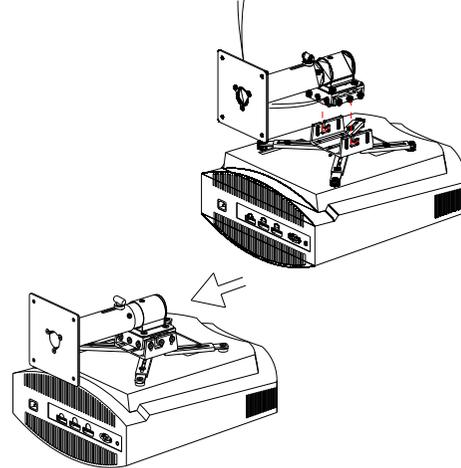

Figure 1-15
Step 5-3: after passing the corresponding wire rod of the projector through the inner tube, lift the octopus with both hands (with the projector installed) and hang it on the axial screw along the guide chute, and lock the left and right four adjusting screws. Refer figure 1-15 (Suitable for wall mounting)